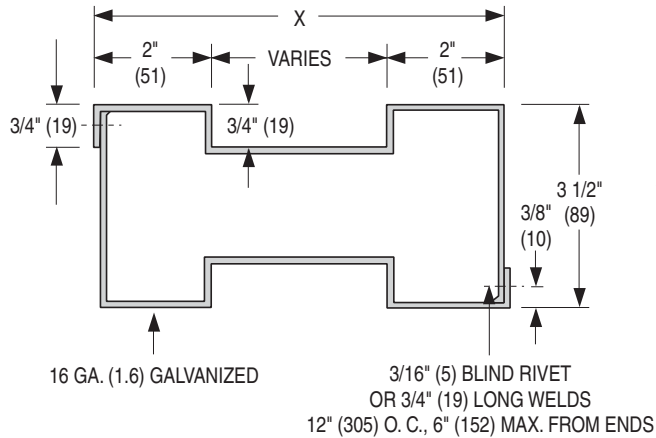
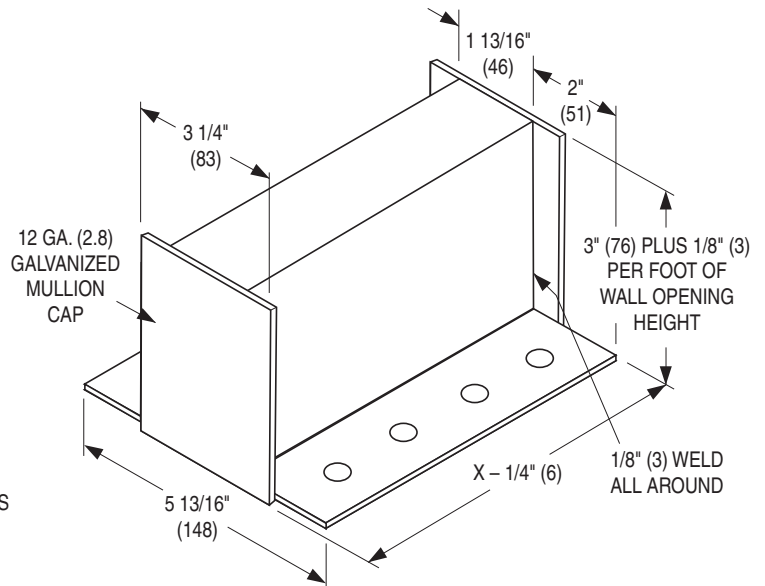

FIGURE 1
FIGURE 2
1. Fabricate mullions of 16 ga. (1.6) galvanized steel as shown in **Figure 1**. Two mullion pieces are joined with 3/16" (5) diameter steel pop rivets or 3/4" (19) long welds located 6" (152) maximum from each end and 12" (305) O.C. maximum.
2. The mullion should permit clearance between the mullion and top cap. Required clearance is 1/8" (3) per foot of wall opening height. Minimum permitted clearance is 1/4" (6). Maximum permitted clearance is 1 1/4" (32) (e.g. for an 8 ft. (2438) high opening the permitted clearance is 1/8" (3) x 8 = 1" (25) +).
3. Fabricate two caps for each mullion of 12 ga. (2.8) galvanized steel as shown in **Figure 2** for vertical and horizontal mullions. (Caps must permit mullion to overlap each cap by minimum 3" (76)). Cap height is calculated by adding 3" (76) to permitted mullion expansion clearance which is 1/8" (3) per foot of wall opening height.